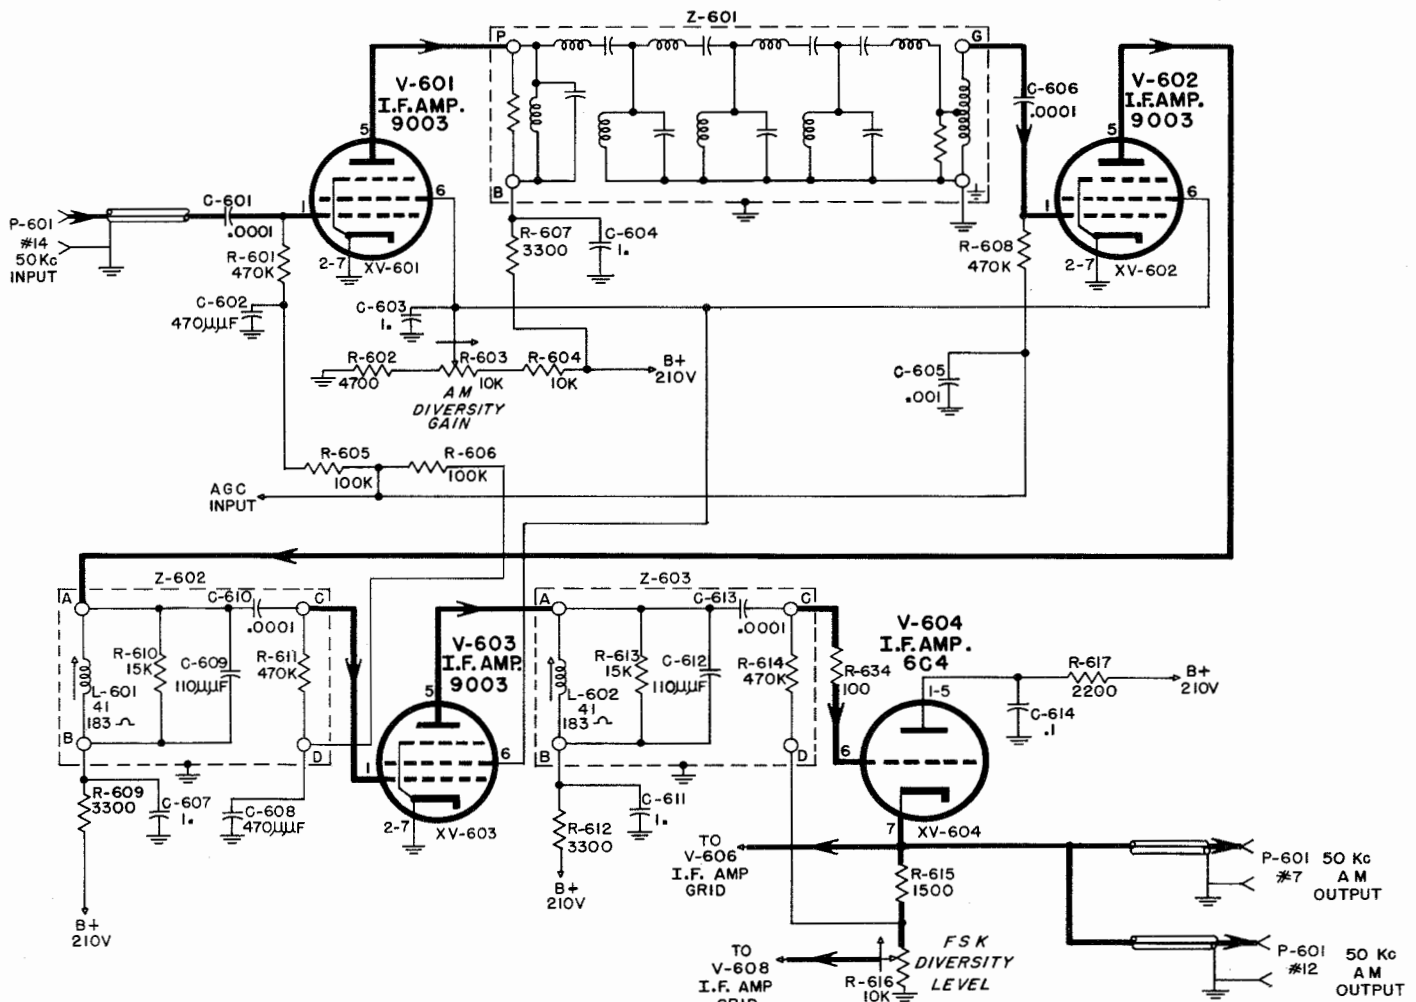

Figure 2-24. 50-kc. I.F. Amplifier Stages V-601, V-602, V-603 and V-604, Simplified Schematic Diagram
(1) 50 KC. AM I.F. AMPLIFIER AND CATHODE FOLLOWER CIRCUITS, V-601, V-602, V-603 AND V-604 (AM-454/FRR-24). (See Figure 2-24).—The output of the filter circuit is applied to input connector J-606 and then is capacitively coupled through capacitor C-601 to the control grid of V-601, a type 9003 tube. Plate voltage is supplied through resistor R-607 and band-pass filter Z-601. C-604 is the plate bypass capacitor. Screen voltage to this tube and V-602 and V-603 is supplied through resistors R-604 and R-603 which are bypassed by capacitor C-603. Filter Z-601 provides the major portion of the selectivity of the I.F. Amplifier. This amplifier stage has a bandwidth of 18 kilocycles and a voltage gain of 23 db. The output of Z-601 is capacitively coupled through capacitor C-606 to the control grid of the second I.F. stage tube V-602. Plate voltage is applied through resistor R-609 and inductor L-601 of filter Z-602. C-607 is the plate bypass capacitor. The voltage gain of this stage is 27 db. The output of filter Z-602 is capacitively coupled through C-610 to the control grid of the third I.F. stage tube V-603. Plate voltage is supplied through resistor R-612 and inductor L-602 of filter Z-603. Capacitor C-611 is the plate bypass. The gain of this third I.F. stage is 27 db. The I.F. amplifier is comprised of three stages with an overall gain of 77 db. Filters Z-602 and Z-603 are very broadly tuned compared with Z-601. The output of Z-603 is capacitively coupled through C-613 to the grid of the cathode follower stage V-604 which provides a low impedance method of coupling